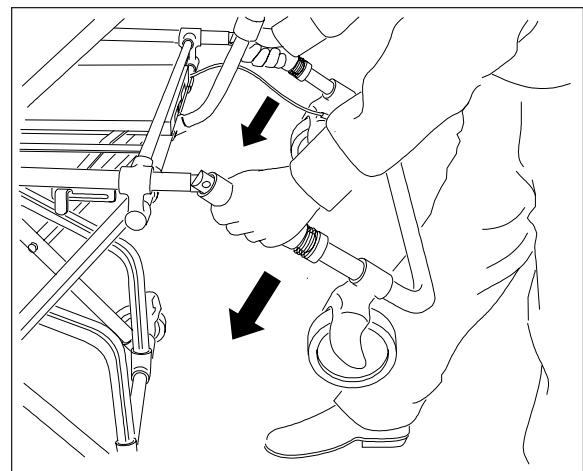

Figure 3 - Lowering the Drop Frame
5. Push frame down (Figure 3).